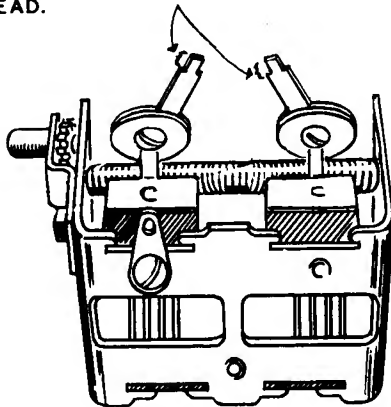

Fig. 6
- ( ) Observing Figures 6 and 7, loosen the nut holding the disc condenser on the stator lug nearest the slide switch so that the condenser is just loose enough to be rotated.